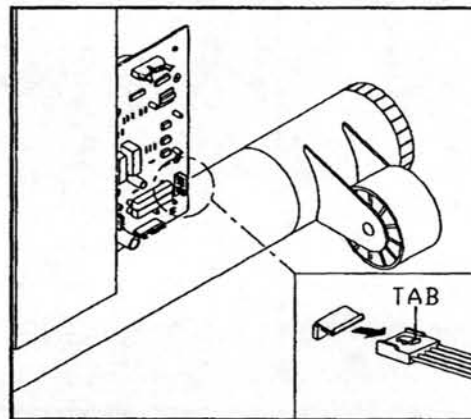

Fig.4-2
3. Find the 6pin ribbon cable from the DRIVE BOARD and take apart the plug from it (see fig 4-2).